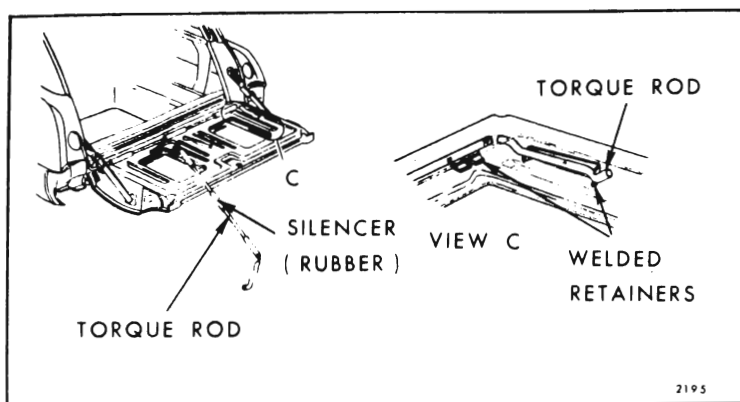

Fig. 9-47—Tail Gate Torque Rod
3. On "B & A" Body Styles, disengage torque rod from welded retainers. (See View "C" in Fig. 9-47.)
4. On "B & A" Body Styles, remove torque rod silencer (rubber) from left side of torque rod (exposed). Work torque rod out of opening on left side and remove rod through top of gate. (See Fig. 9-47.)